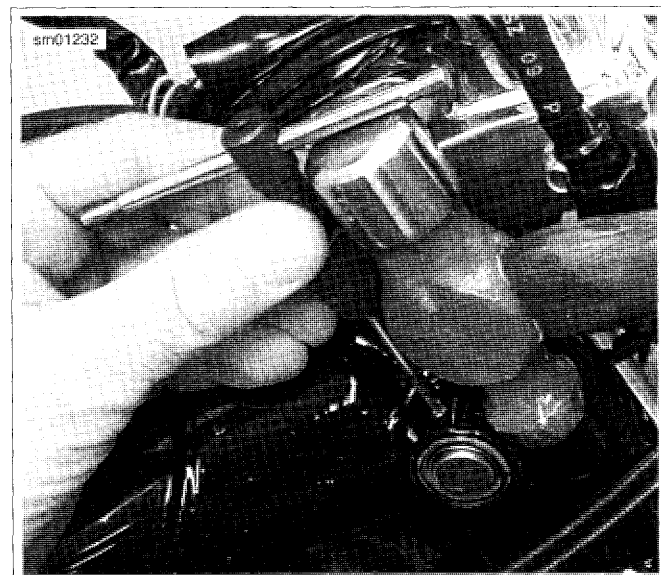

Figure 2-258. Removing Lock Pin
5. See Figure 2-258. To remove lock pin, insert a screw extractor into the 5/64 in. hole. Hold body of screw extractor with a pliers or tap handle and using a small hammer gently "tap" on the pliers or tap handle to remove lock pin.